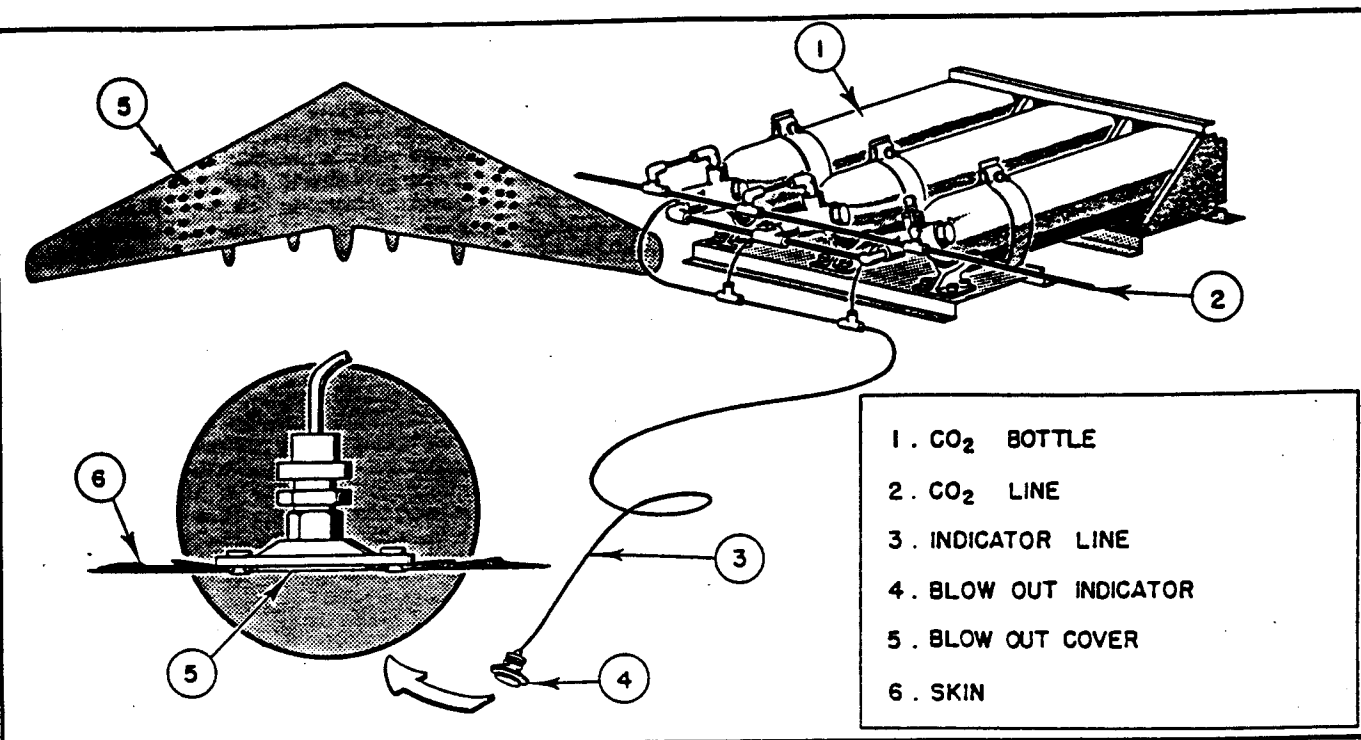

Figure 8. Location of Blow Out Indicators
a. DESCRIPTION.- Each cylinder assembly consists of cylinder, syphon tube, and cylinder valve. Each steel, 45 pound (full) cylinder is charged with 15 pounds of carbon dioxide at 1800 psi and a temperature of 70°F (21.1°C). A safety disk in the cylinder valve ruptures and releases the gas to the outer air whenever the temperature of the cylinder increases the pressure to the danger point (see figure 8).